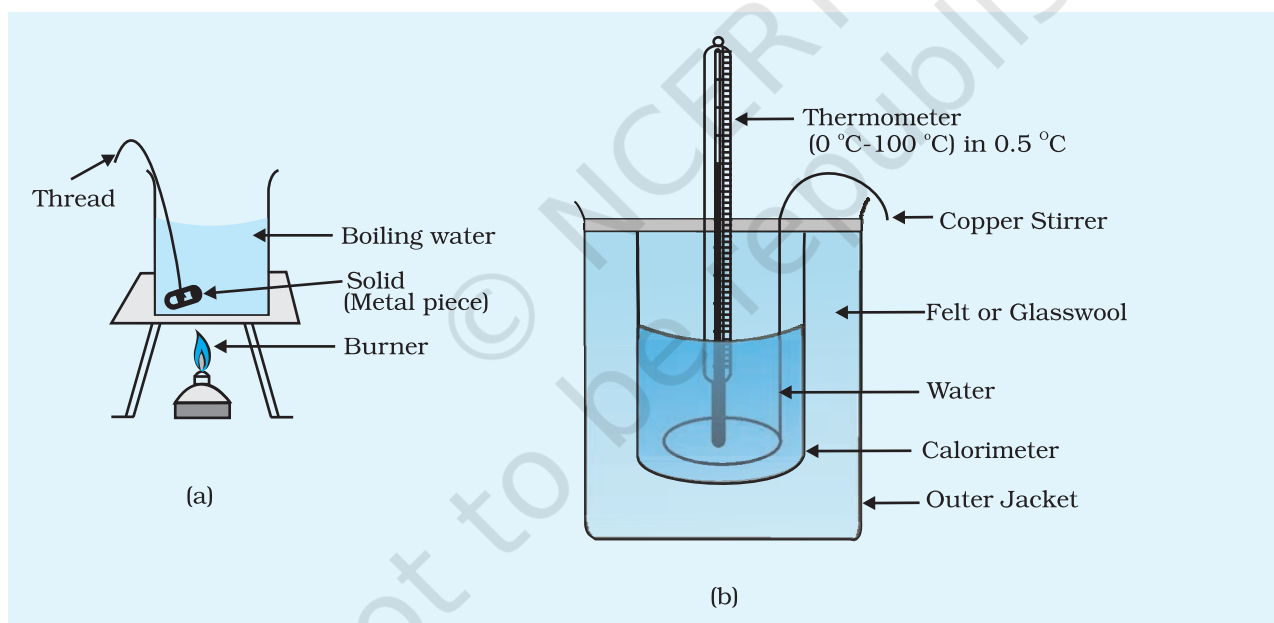

Fig. E 17.1: Experimental setup for determining specific heat of a given solid
Place a 250 mL beaker on the wire gauze kept on a tripod stand as shown in the Fig. E 17.1(a). Fill the beaker up to the half with water. Now suspend the solid in the beaker containing water by tying the other end of the thread to a laboratory stand. The solid should be completely submerged in water and should be atleast 0.5 cm below the surface. Now heat the water with the solid suspended in it [Fig. E 17.1 (a)].
remove it from the boiling water, shake it to remove water sticking on it and quickly put it in the water in the calorimeter and replace the lid immediately (Fig. E 17.1 (b)). Stir the water with the stirrer. Measure the temperature of the water once equilibrium is attained, that is, temperature of the mixture becomes constant. Record this temperature as t_3 .
Place a 250 mL beaker on the wire gauze kept on a tripod stand as shown in Fig. E 17.1(a). Fill the beaker up to half with water. Now suspend the solid in the beaker containing water by tying the other end of the thread to a laboratory stand. The solid should be completely submerged in water and should be atleast 0.5 cm below the surface. Now heat the water with the solid suspended in it [Fig. E 17.1(a)].
6. Let the liquid in the beaker boil for about 5-10 minutes. Now measure the temperature t_2 of the liquid with the other thermometer and record the same. Holding the solid with the thread tied to it remove it from the boiling water, shake it to remove water sticking on it and quickly put it in the liquid in the calorimeter and replace the lid immediately [Fig. E 17.1(b)]. Stir it with the stirrer. Measure the temperature of the liquid once equilibrium is attained, that is, temperature of the mixture becomes constant. Record this temperature as t_3 .